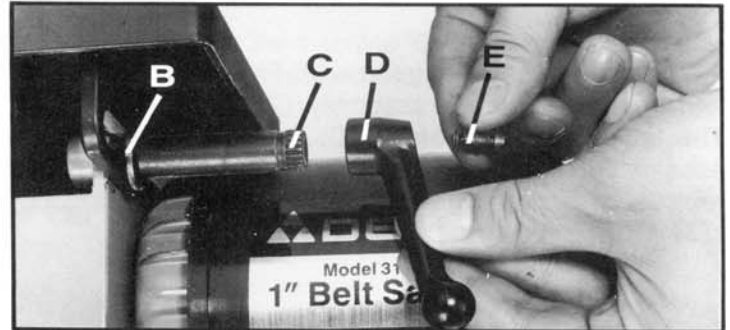

Fig. 5
4. Flat washer (B) and stud (C) are also shown in Fig. 5. Place handle (D) on end of stud and fasten in place using screw and spring (E) Fig. 5.